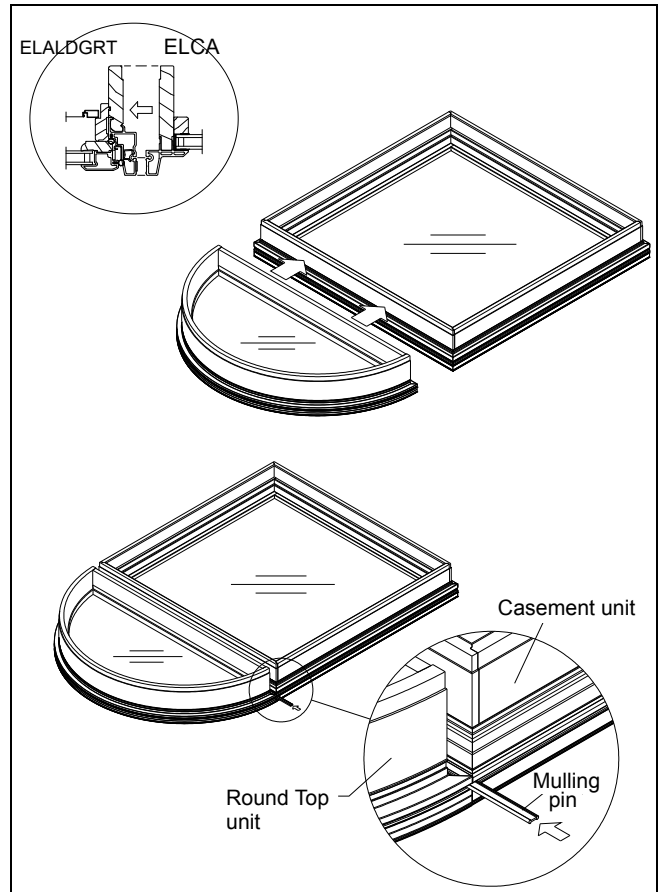

Figure 31
4. Place frames together and slide aluminum mulling pin into nailing fin/drip cap kerf. A hammer may aid in the application of the mull pin. The mull pin ends must be recessed 1/4" to allow sealant application later. See figure 31.